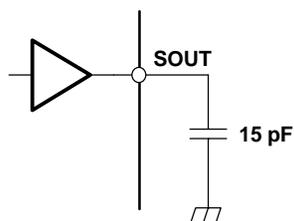

Figure 4. Test Circuit for t_{r0} , t_{f0} , t_{d0} , t_{d1}
- (1) See Figure 4. Defined as from 10% to 90%
- (3) See Figure 4, Figure 11